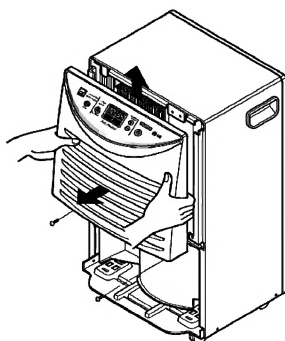

Figure 11
2. Pull the front grille forward and upward. (See Figure 11)